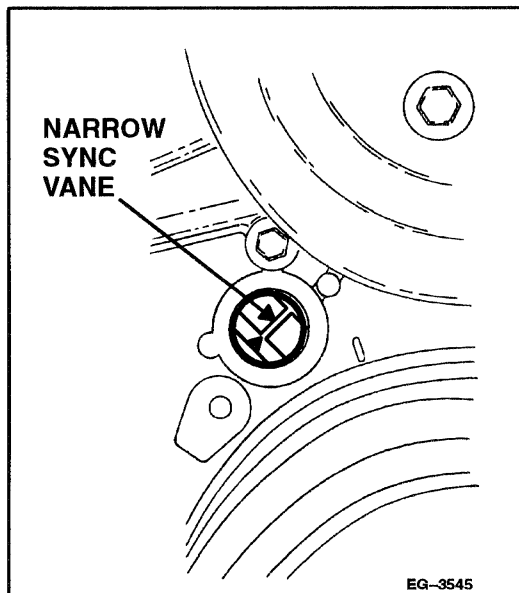

Figure 4.2. – View of Timing Disk
- If the engine is on the compression stroke for #1 cylinder a narrow sync vane will be observed directly in the middle of the CMP sensor hole. **Figure 4.2.**